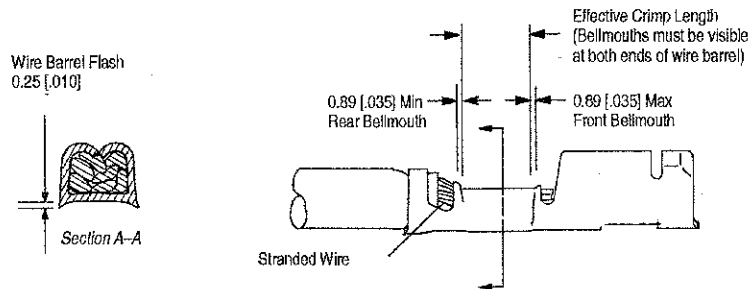

Figure 5
- B. Wire barrel flash:** Flash that may appear on either side of the crimped contact shall not exceed the maximum limit specified in Figure 5.
- D. Bellmouth:** The front and rear bellmouths caused by extrusion of the contact metal during the crimping process shall be within the limits provided in Figure 5.